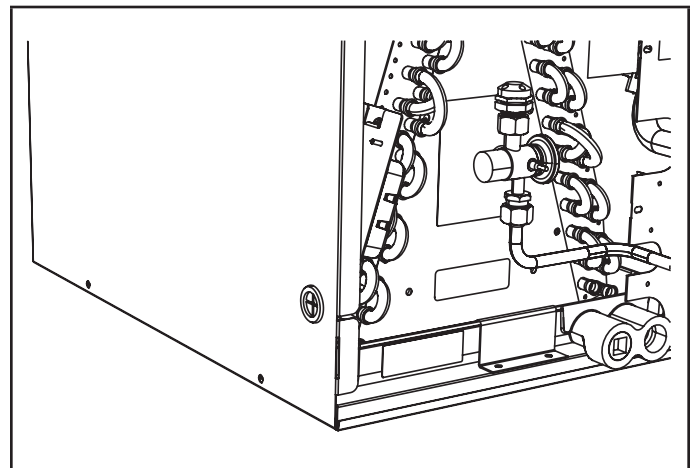

**FIGURE 13**
- 4 - Working from the front of the coil, attach the bottom clearance hole to the bottom attachment hole in the coil end plate (figure 13).